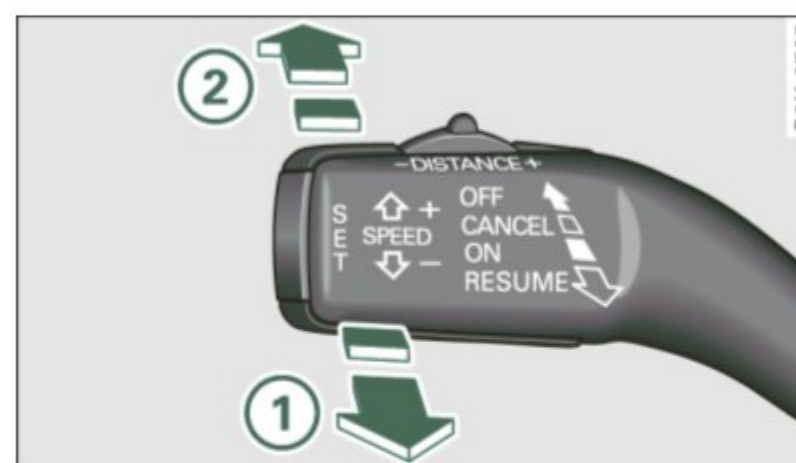

Fig. 123 Control lever: Switching on and off
- Pull the lever to position ① ⇒ fig. 123.